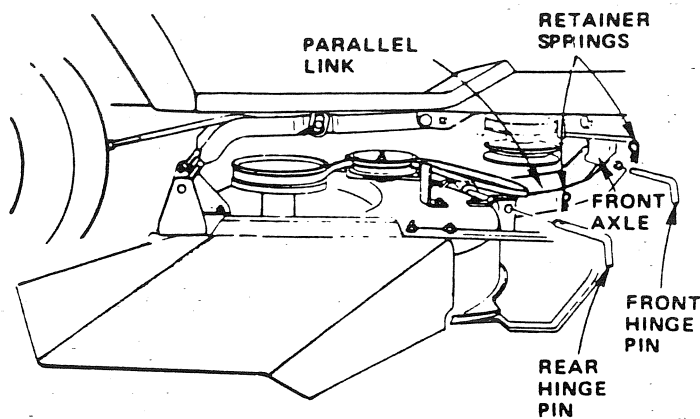

FIGURE 30
1. Install Front Hinge Pin through Axle and Parallel Link (Fig. 30). Secure with Retainer Spring.
2. Install Rear Hinge pin through Mower Lift Brackets and Parallel Link (Fig. 30). Secure with Retainer Spring.